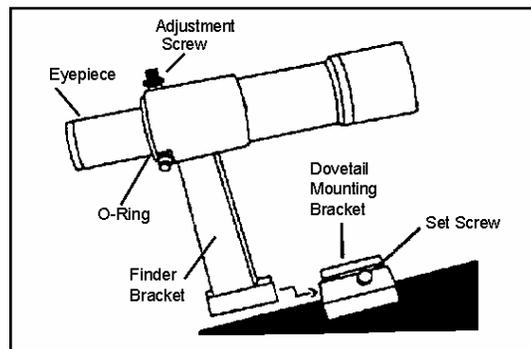

Figure 3
2. Slide the finder bracket (attached to the finderscope) into the mounting bracket on the spotting scope. Tighten the thumb screw on the mounting bracket to hold the finderscope in place. See figure 3